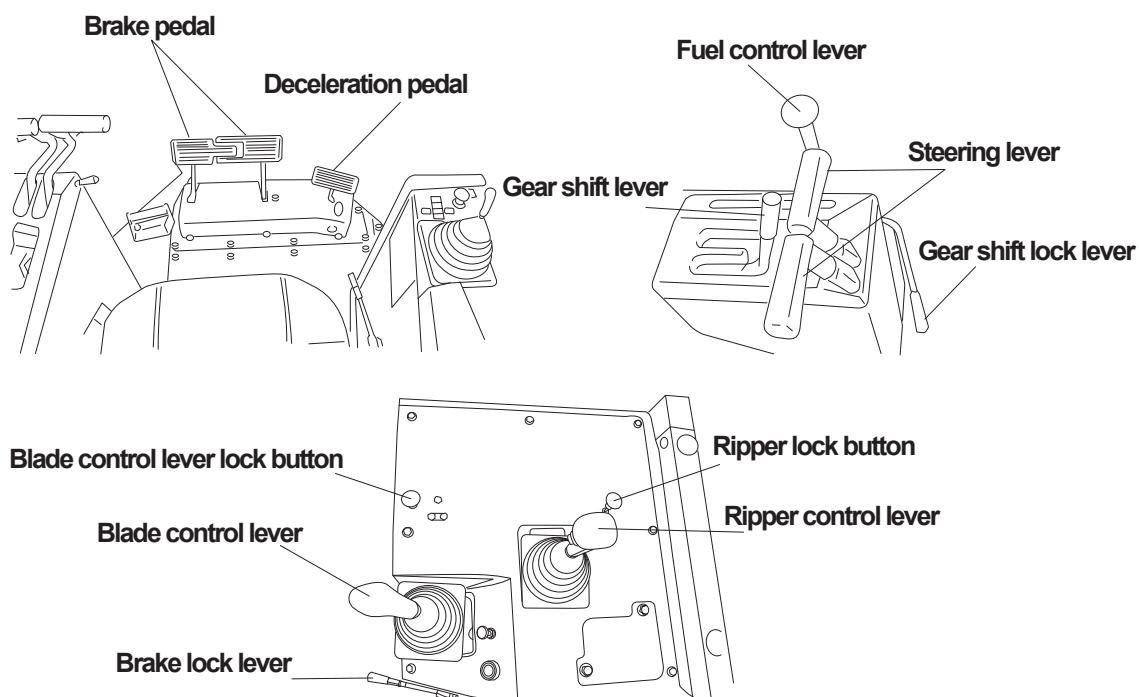

Figure 2-1
2.1.1 GENERAL VIEW OF CONTROLS (FIGURE 2-1)